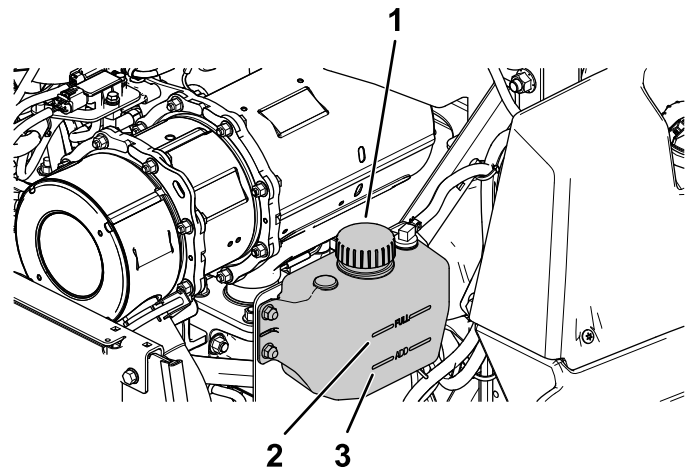

Figure 52
4. Check the level of the coolant in the expansion tank (Figure 52).
5. If coolant level is low, remove the expansion-tank cap, and add the specified coolant (Figure 52).